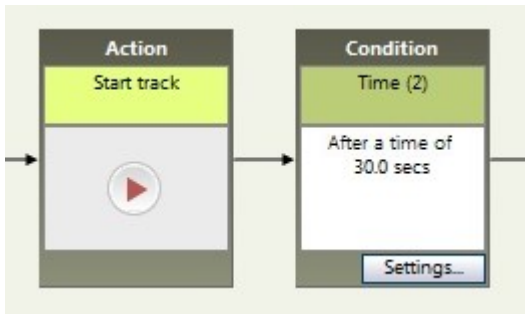

Figure 59 A condition box that waits 30 seconds for both arenas.
- There may be parts of the protocol shared between arenas. In the example of Figure 59, the first 30 seconds after the start of the trial are the same for the two arenas. Therefore, one condition box after the **Start track** box will suffice.